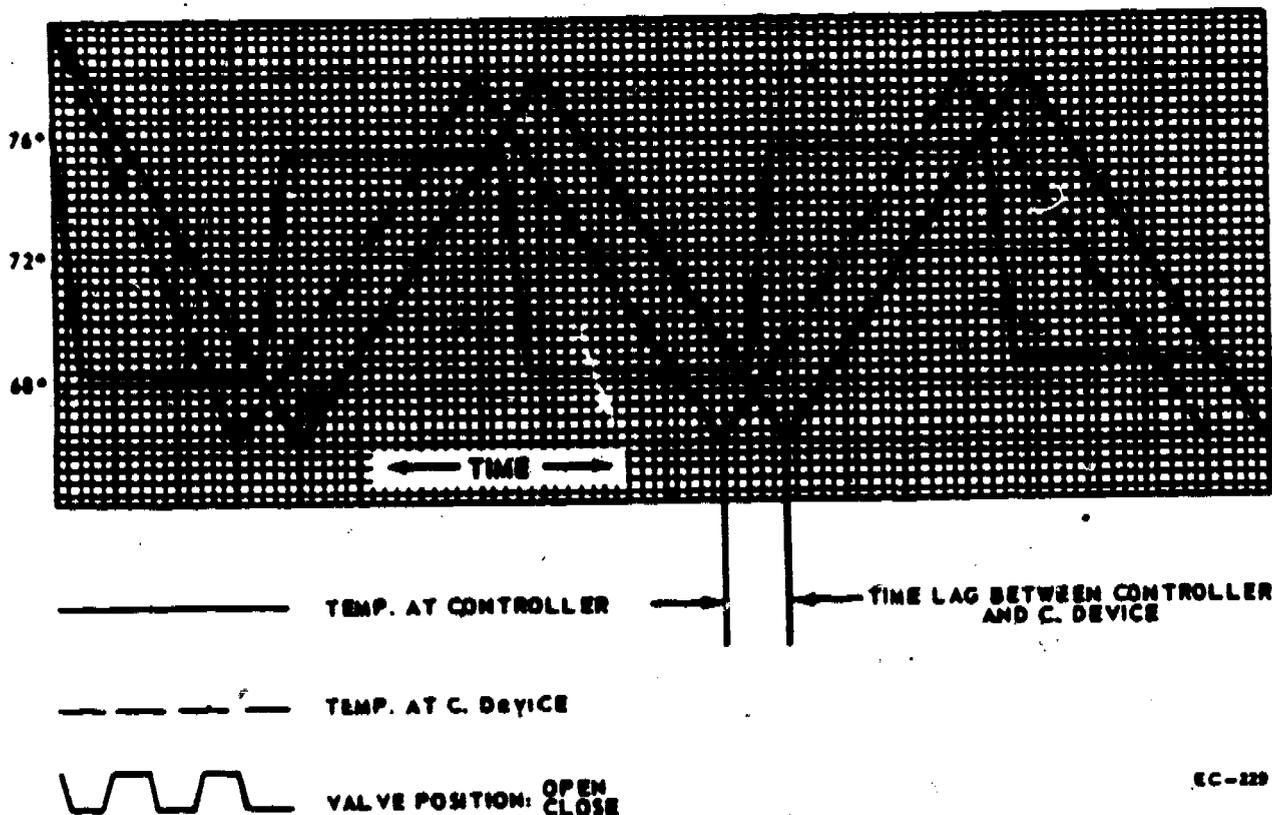

Figure 26. Two-Position Control Circuit Graph
1. **Two-Position:** The two-position control circuit produces cycling, an on-off or open-closed control. It will not control a close variable as the modulating control. There is overshooting and undershooting beyond the desired differential. There is a time lag between the controller and the control device. Once the controller calls for control agent, it then must wait until it senses the change produced before it can react once again. Figure 26 graphically illustrates the operation of the two-position control circuit.